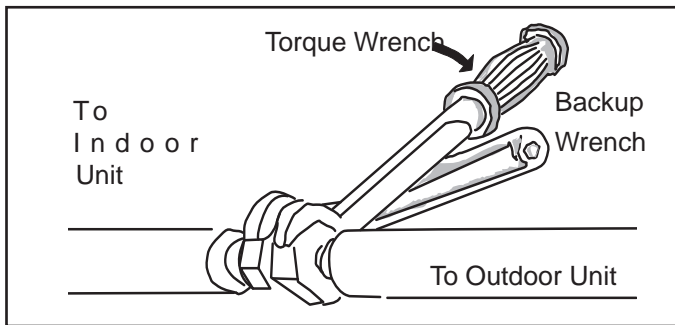
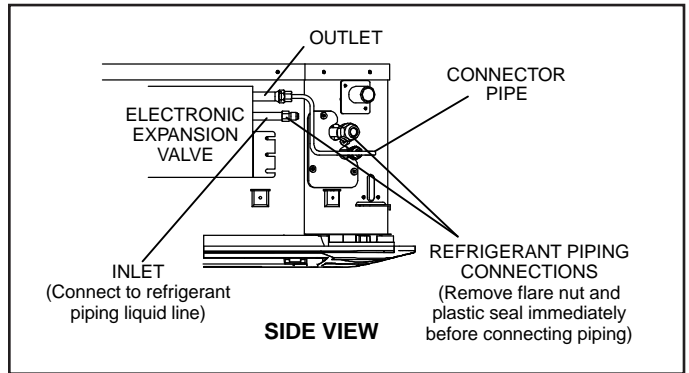

Figure 4. Tighten Flare Nut
Figure 5. Liquid Line / Expansion Valve Connector
7. Once snug, continue another half-turn on each nut which should create a leak-free joint. A torque wrench may be used to tighten flare nuts using table 2 recommendations. See Figure 4. **Do not over-tighten a flared joint. Flared connections should always be accessible and must be insulated to prevent condensation.**
10. Immediately align the connector pipe with the cassette base liquid line and the electronic expansion valve connection labeled "OUTLET." See Figure 5. Hand-tighten the flare nuts at first. Then, use two wrenches to continue to tighten the nuts without twisting the pipes. See Figure 4. Torque requirements are given in Table 2. **Again, do not over-tighten the flared joints.**